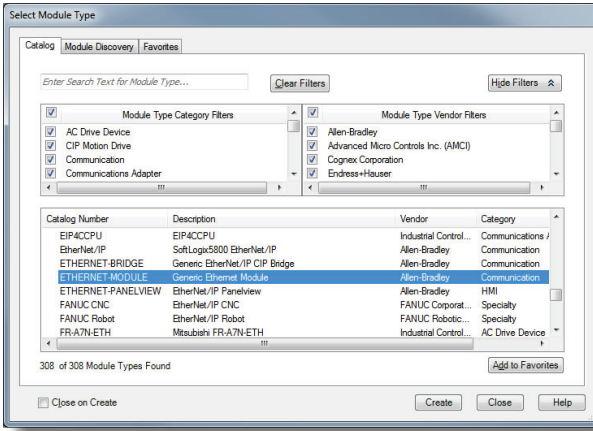

Figure 51: Adding a New Generic Ethernet Module
- 3) Choose "Generic Ethernet Module" in the Select Module dialog box and click "Create". Refer to Figure 51.